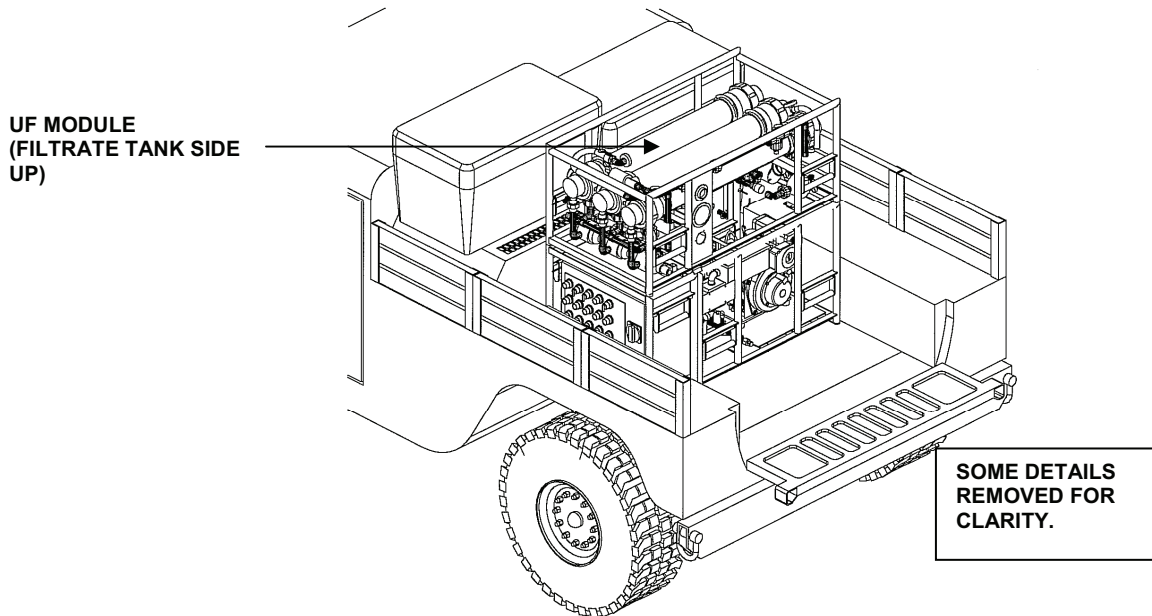

Figure 10. Loading UF Module.
19. Load the UF module with the fabric filtrate tank up in the cargo compartment. Stack on top of the high-pressure pump module and control module. See Figure 10.